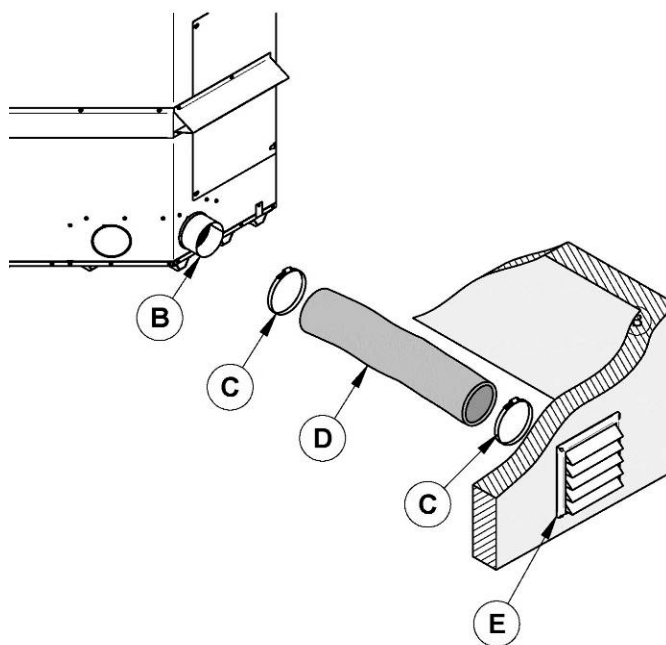

Figure 26 : Fresh air intake kit installation
3. Unscrew the two bolts (**Detail A**) which are located in the lower left corner of the door (see **Figure 26**).